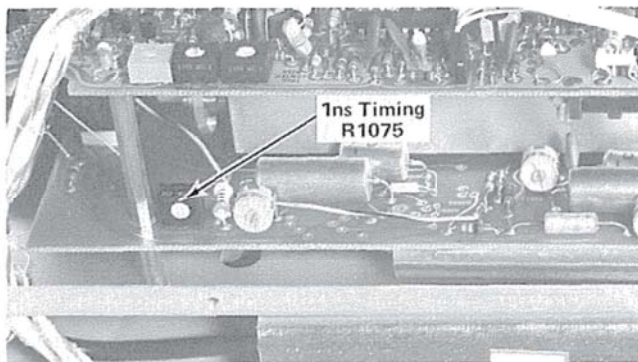

Fig. 5-28. Location of 1 nanosecond timing adjustment.
m. ADJUST—R1075 (see Fig. 5-28) with a low-capacitance screwdriver, for 1 cycle/2 divisions.